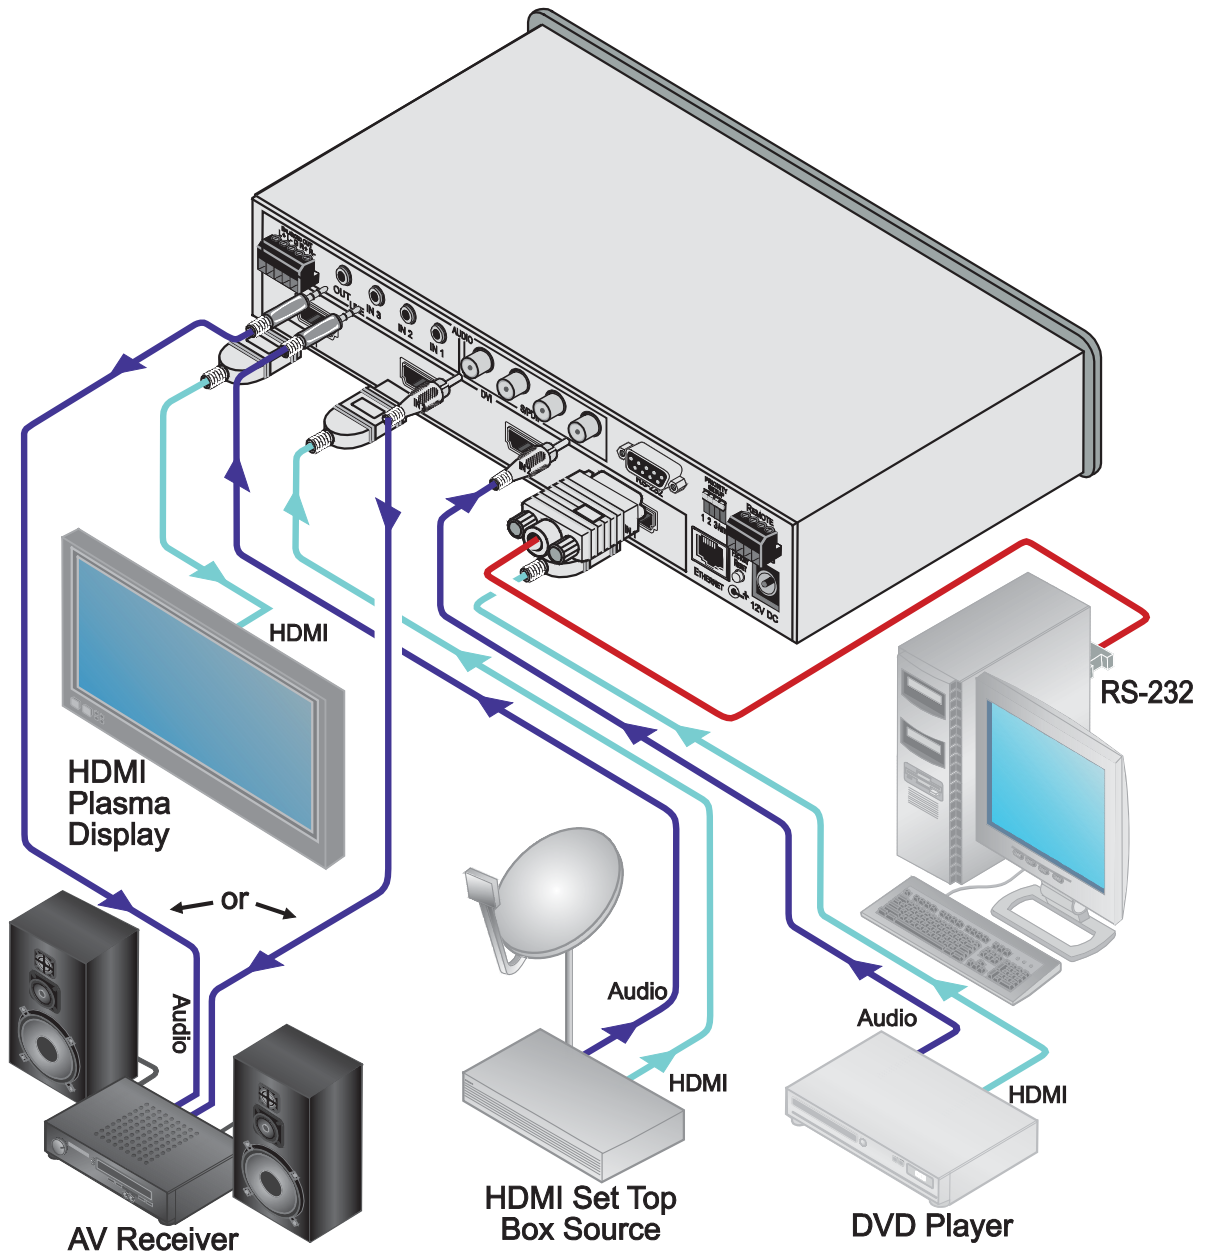

Figure 2: Connecting the VS-311H Automatic HDMI / Audio Switcher
To connect¹ the **VS-311H Automatic HDMI / Audio Switcher**, as illustrated in the example in Figure 2, do the following²:
8. Connect the 12V DC power adapter to the power socket and connect the adapter to the mains electricity (not shown in Figure 2).
7 The connection is not illustrated in Figure 2